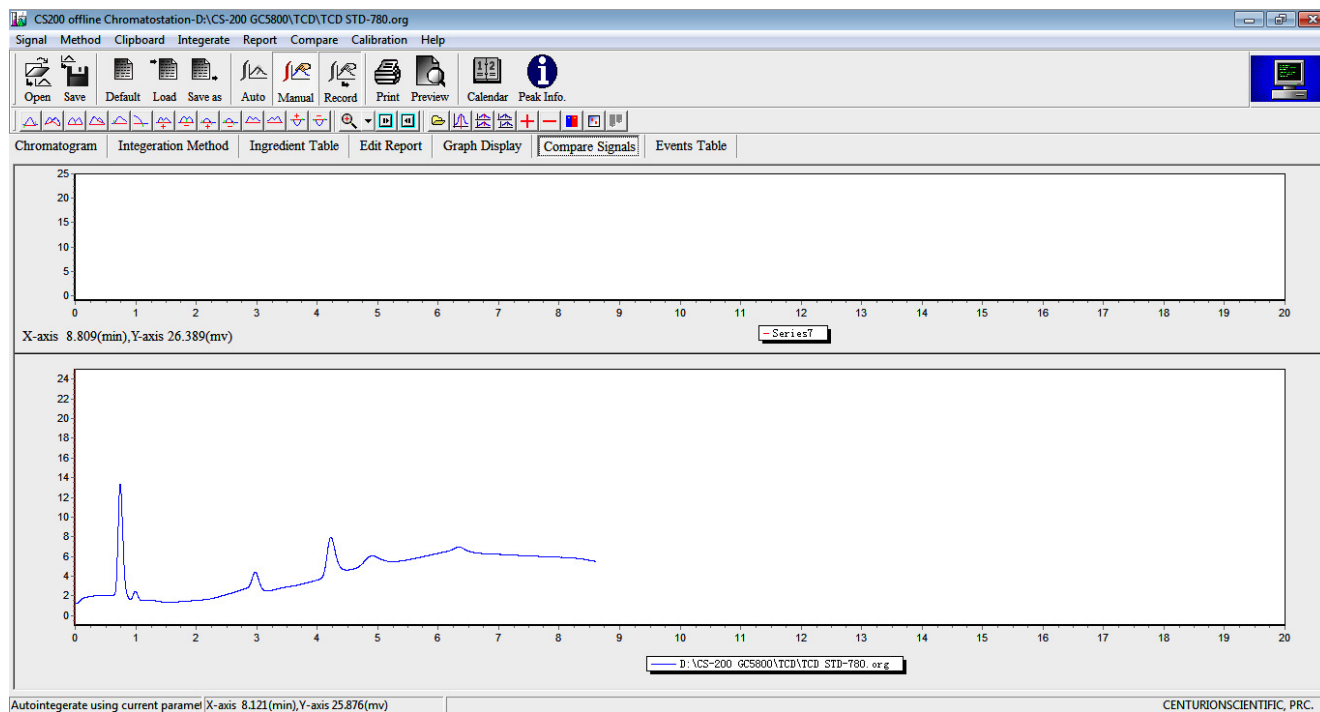

Figure D-600. The Dialog Box for Comparing Signals
4. The selected Chromatogram will be loaded and displayed as shown in Figure D-600.